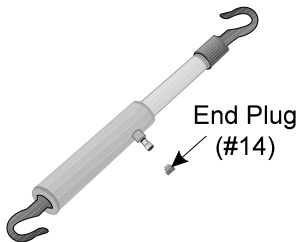

Figure 1 — Removing End Plug
Step 1: Unscrew and save the END PLUG (#14) located on the end of the Pull-Back Ram COUPLER (#16) as shown in Figure 1.